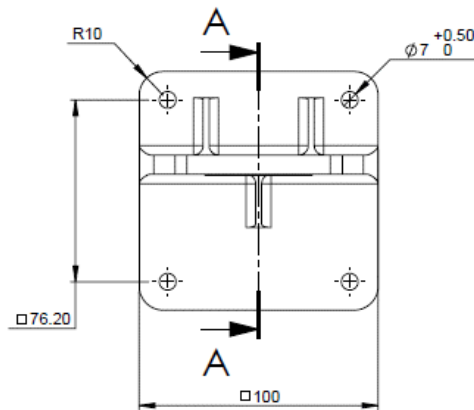

Figure 11: Tilt Mount Base - Plate View
- a) Mount the tilt mount base (Figure 11: Tilt Mount Base - Plate View) to a solid structure using four suitable fixings through the four 7mm (0.28") diameter holes. Four captive screws with spring washers are provided in the tilt mount.